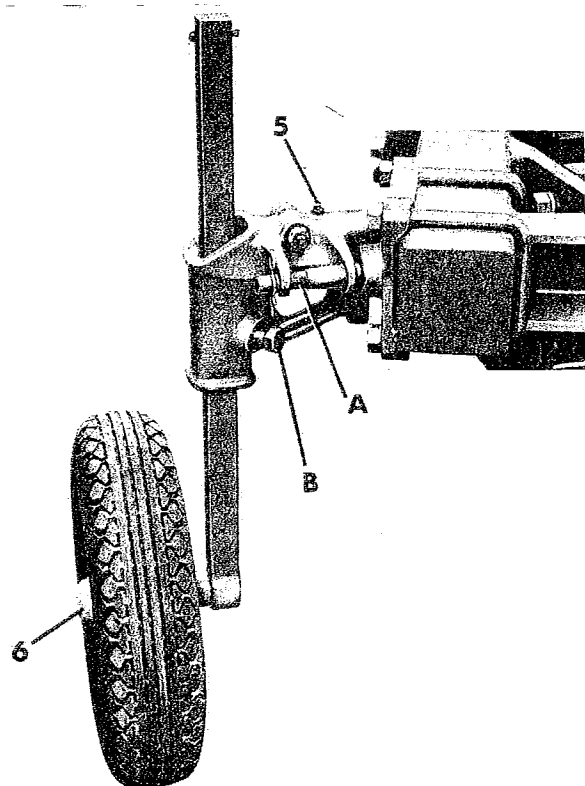

Fig. 12
20. DEPTH WHEEL (Fig. 12)
Fig. 12 shows the position of the pin 'A' when the wheel is used to control the depth of work when ploughing.